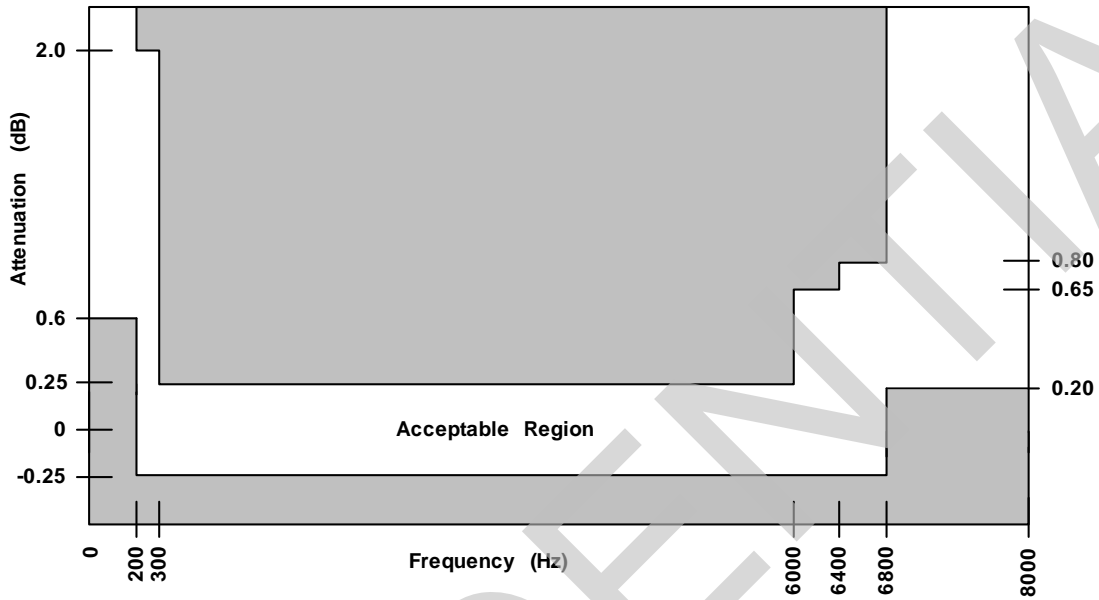
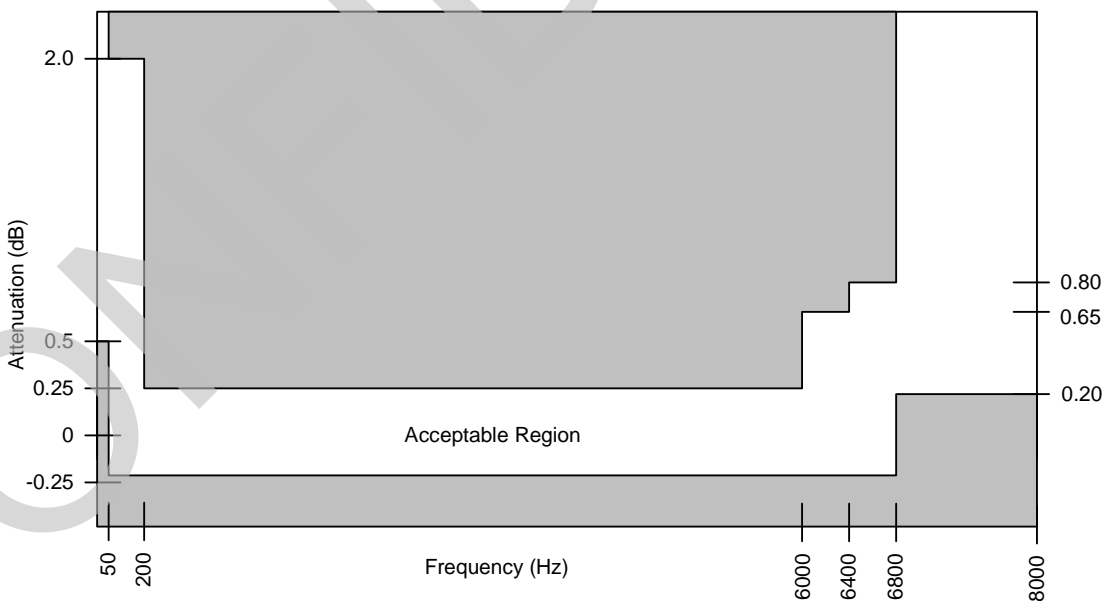

Figure 29 - Transmit (A to D) Path Attenuation vs. Frequency- (with High-Pass Filter Enabled)
Figure 30 - Receive (D to A) Path Attenuation vs. Frequency
3. See Figure 29, "Transmit \(A to D\) Path Attenuation vs. Frequency- \(with High-Pass Filter Enabled\)" on page 45 and Figure 30, "Receive \(D to A\) Path Attenuation vs. Frequency" on page 45.
The signal attenuation in either path is nominally independent of the frequency. The deviations from nominal attenuation will stay within the limits shown in Figure 29 and Figure 30. The reference frequency is 1014 Hz and the signal level is -10 dBm0.